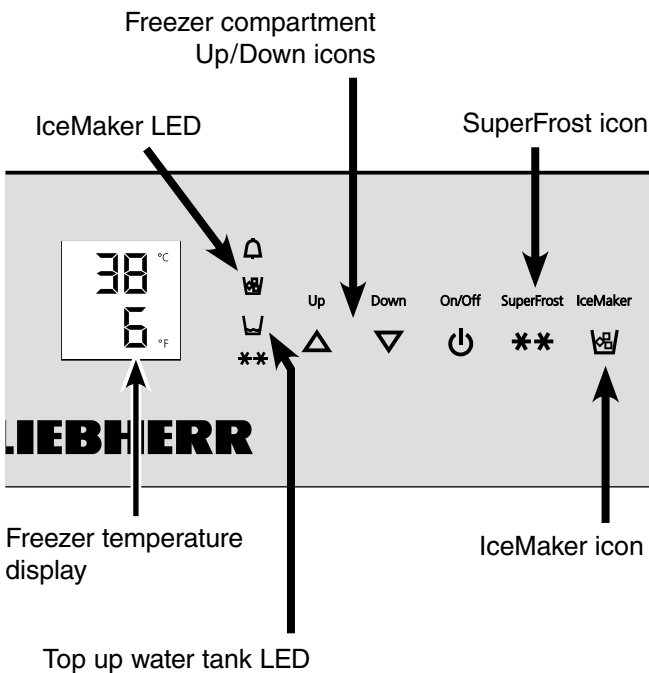

Figure 19
- Touch the **IceMaker icon** so the **IceMaker LED** comes on (**Figure 19**).
Top up water tank LED - **Figure 19**